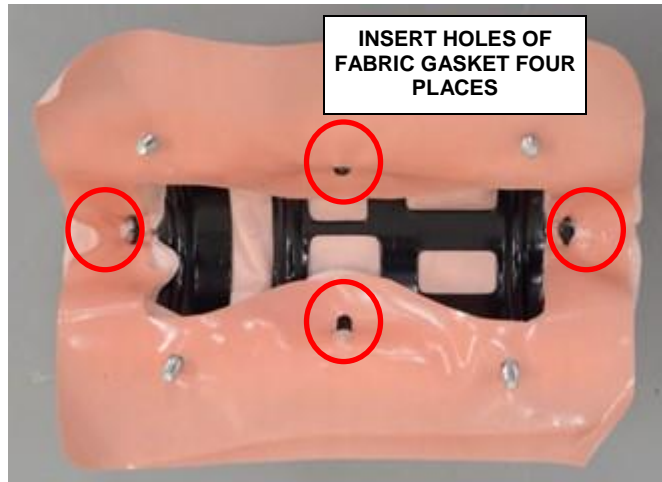

Figure 95 – Fabric Gasket
- j. With the help of a trim tool insert the holes of fabric gasket, four places (Figure 95).